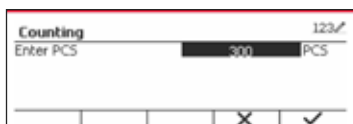

Figure 48
2. Press the softkey corresponding to the **✓** icon to edit the PCS value using the alphanumeric keypad. (See Figure 48)